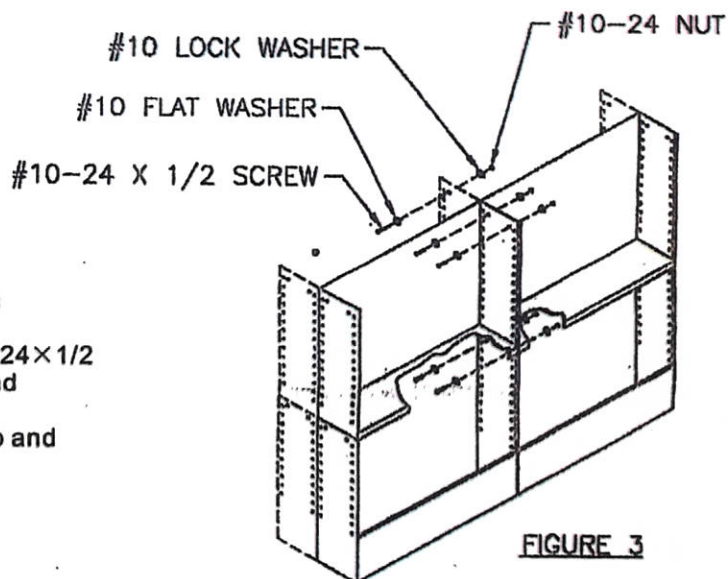

FIGURE 3
3. To attach units end-to-end:(FIGURE 3)
- b.) Attach single units together with (4) #10-24×1/2 screws,washers and nuts through top and center slotted holes as shown.